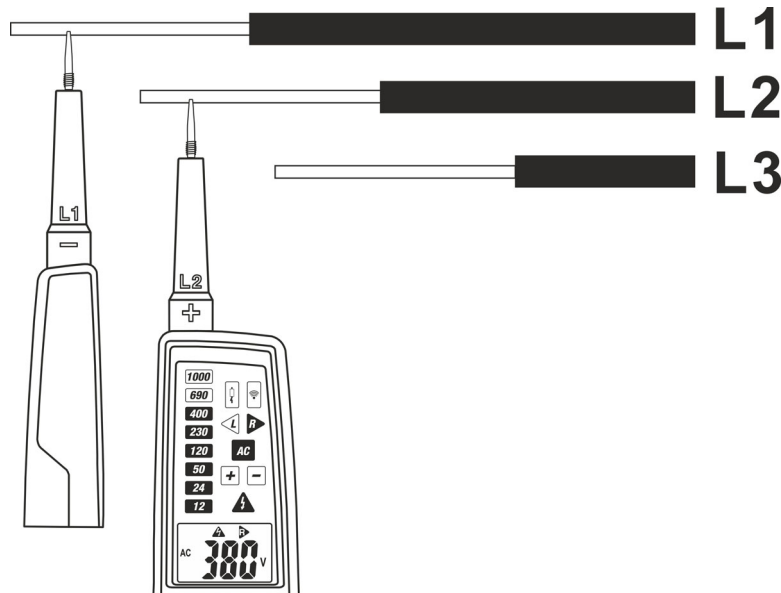

Fig. 8: Phase sequence test
2. Connect **L1** probe on L1 phase and **L2** probe on L2 phase of the three-phase system under test (see Fig. 8). The measurement is performed **only with contact of probes directly on metal parts of conductors**